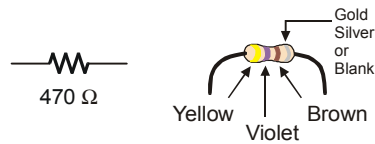
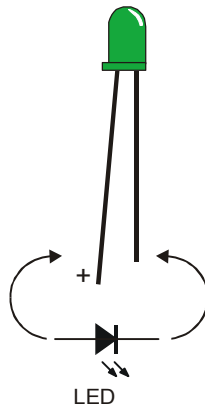

Figure 2-2
Figure 2-4
A resistor is a component that 'resists' the flow of electricity. This flow of electricity is called current. Each resistor has a value that tells how strongly it resists current flow. This resistance value is called the ohm, and the sign for the ohm is the Greek letter omega: Ω . The resistor you will be working with in this activity is the 470 Ω resistor shown in Figure 2-2. The resistor has two wires (called leads and pronounced "leeds"), one coming out of each end. There is a ceramic case between the two leads, and it's the part that resists current flow. Most circuit diagrams that show resistors use the jagged line symbol on the left to tell the person building the circuit that he or she must use a 470 Ω resistor. This is called a schematic symbol. The drawing on the right is a part drawing used in some beginner level Stamps in Class texts to help you identify the resistor in your kit.
Figure 2-4 shows an LED's schematic symbol and part drawing. An LED has two terminals. One is called the anode, and the other is called the cathode. In this activity, you will have to build the LED into a circuit, paying attention to make sure the leads connected to the anode and cathode are connected to the circuit properly. On the part drawing, the anode lead is labeled with the plus-sign (+). On the schematic symbol, the anode is the wide part of the triangle. In the part drawing, the cathode lead is the unlabeled pin, and on the schematic symbol, the cathode is the line across the point of the triangle.
Identifying the parts: In addition to the part drawings in Figure 2-2 and Figure 2-4, you can use the photo on the last page of the book to help identify the parts in the kit needed for this and all other activities. For more information on the parts in this photo, see Appendix B: Equipment and Parts Lists.
- ✓ Use Figure 2-4 to decide which lead is connected to the LED's cathode. Look for the shorter lead and the flat spot on the plastic part of the LED.